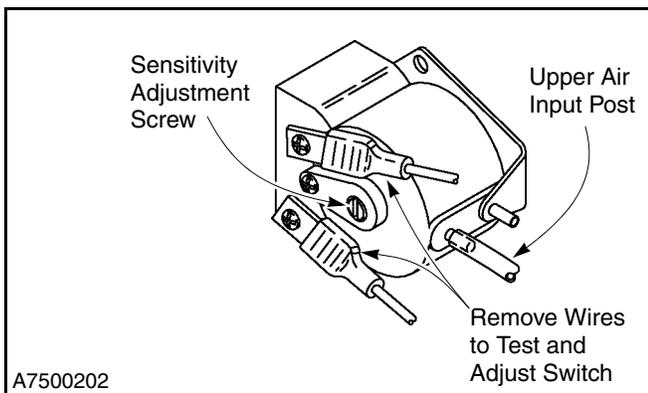

Figure 37
1. Remove the wires from the contact terminals and attach an ohmmeter across the two terminals. (See Figure 37.)
2. To adjust the switch, turn the small adjusting screw located on the face of the switch clockwise or counterclockwise until continuity is achieved. Then turn the screw two turns clockwise for final adjustment. Adjusting the screw clockwise decreases sensitivity, counterclockwise increases sensitivity. (See Figure 37.)